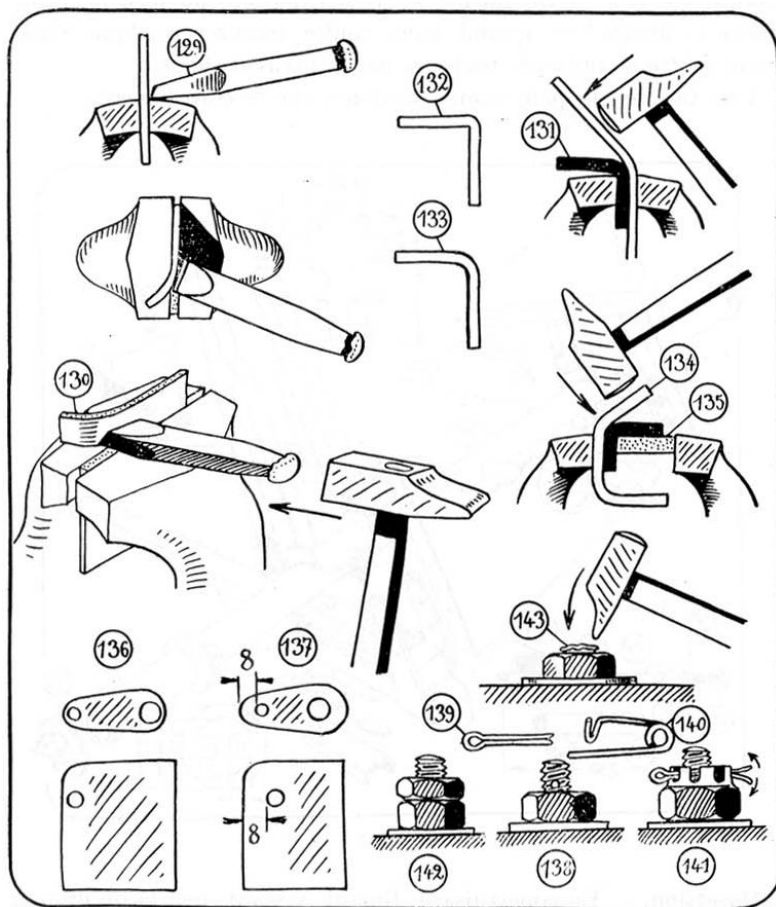

Figure 3.20: Fashioning sheet steel fittings
steel sheet and mark the outline with sharp chalk or a grease crayon. Clamp the sheet in a vise with straight edges of at least 100mm, and cut it with a sharpened chisel as shown at (129) in figure 3.20. This will make a clean, accurate cut. Hold the chisel almost horizontal.